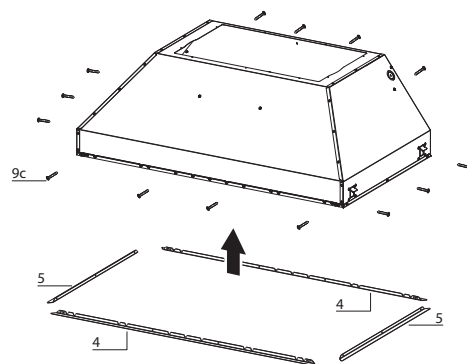

FIGURE 8
2. Remove the white plastic covering and install the 4 side trim pieces (4-5) to the outside of the hood using (14) part 9c screws, see the side trim installation in (Figure 8).